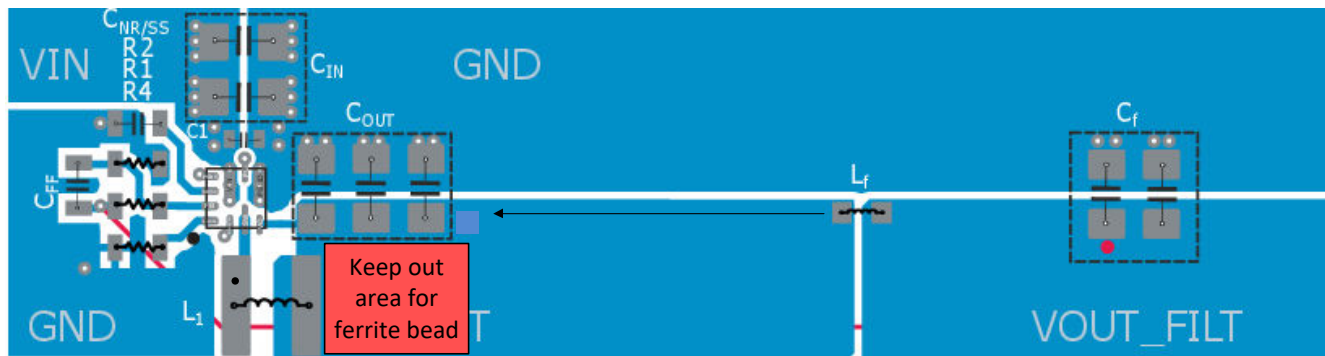

图 10-2. Recommended Layout for Design with Second L-C Filter
In addition to the bulk input cap, a smaller cap must be placed directly from the VIN pin to the PGND pin to minimize input loop parasitic inductance, thereby minimizing the high frequency noise of the device. The input cap placement affects the output noise, so care needs to be taken in placing both the bulk cap and bypass caps as shown in 图 10.2. 表 8-7 lists recommended input capacitors.
- Avoid placing the ferrite bead in the keep out region as shown in 图 10-2
- The recommended layout is implemented on the EVM and shown in its User's Guide, TPS6291xEVM-077 User's Guide, as well as in 图 10-2.